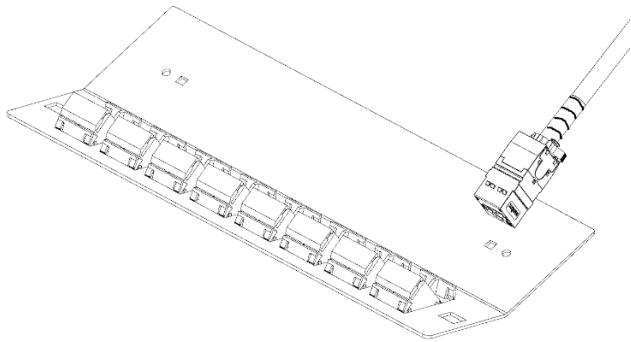

Fig.20
1. Orientate jack into module fascia as shown in Fig. 20